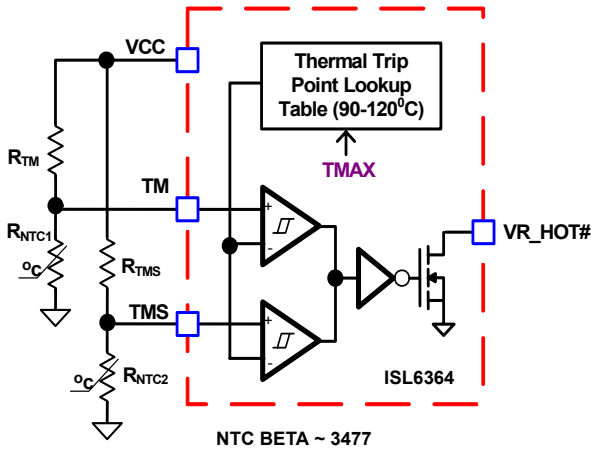
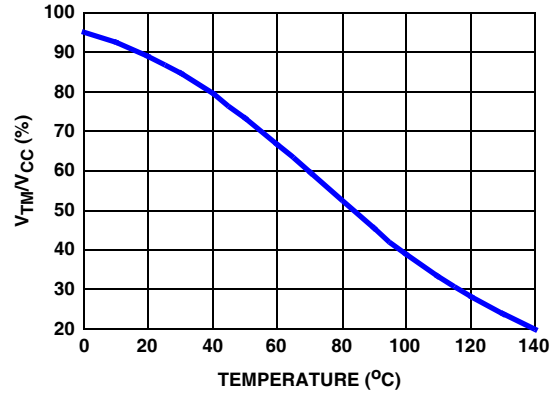

FIGURE 19. BLOCK DIAGRAM OF THERMAL MONITORING FUNCTION
FIGURE 20. THE RATIO OF TM VOLTAGE TO NTC TEMPERATURE WITH RECOMMENDED PARTS
The diagram of thermal monitoring function block is shown in Figure 19. One NTC resistor should be placed close to the respective power stage of the voltage regulator VR0 and VR1 to sense the operational temperature, and one pull-up resistor is needed to form the voltage divider for the TM pin. As the temperature of the power stage increases, the resistance of the NTC will reduce, resulting in the reduced voltage at the TM pin. Figure 20 shows the TM voltage over the temperature for a typical design with a recommended 6.8kΩ NTC (P/N: NTHS0805N02N6801 from Vishay, β = 3477) and 1kΩ resistor R_{TM}. It is recommended to use those resistors for the accurate temperature compensation since the internal thermal digital code is developed based upon these two components. If a different value is used, the temperature coefficient must be close to 3477 and R_{TM} must be scaled accordingly. For instance, say NTC = 10kΩ (β = 3477), then R_{TM} should be 10kΩ/6.8kΩ*1kΩ = 1.47kΩ.
There is a comparator with hysteresis to compare the TM pin voltage to the threshold set by the TMAX register for VR_HOT# signal. With TMAX set at +100°C, the VR_HOT# signal is pulled to GND when either TM or TMS voltage is lower than 39.12% of VCC voltage, and is open when both TM and TMS voltages increase to above 40.98% of VCC voltage. The comparator trip point will be programmable by TMAX values. Figure 20 shows the operation of those signals.
Based on the VCC voltage, the ISL6364 converts the TM pin voltage to a 6-bit TM digital signal for temperature compensation. With the non-linear A/D converter of ISL6364, the TM digital signal is linearly proportional to the NTC temperature. For accurate temperature compensation, the ratio of the TM voltage to the NTC temperature of the practical design should be similar to that in Figure 20.
When a different NTC type or different voltage divider is used for the TM function, the TCOMP voltage can also be used to compensate for the difference between the recommended TM voltage curve in Figure 20 and that of the actual design. If the same type NTC ($\beta = 3477$) but different value is used, the pull-up resistor needs to be scaled as shown in Equation 22:
1. Properly choose the voltage divider for the TM pin to match the TM voltage vs temperature curve with the recommended curve in Figure 20.